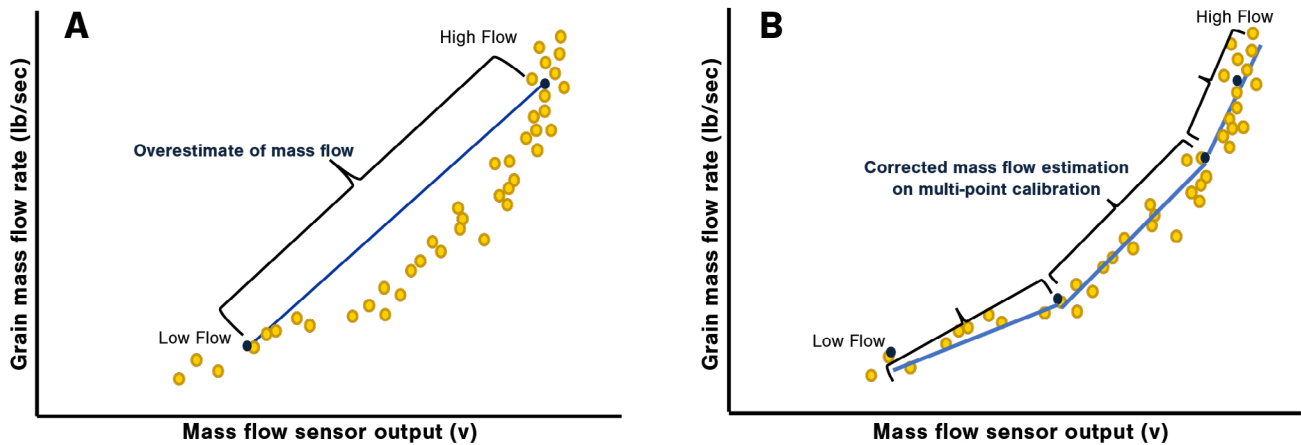

Fig 5. Single point calibration (A) vs. multi-point calibration (B) for a yield monitoring system
- » The calibration process involves establishing a response curve that relates grain flow rate (lb/sec) to flow sensor signal strength (v), enabling accurate estimations of low, medium, and high yields (Fig. 5). The nature of this calibration curve may vary among different yield monitor manufacturers. While some